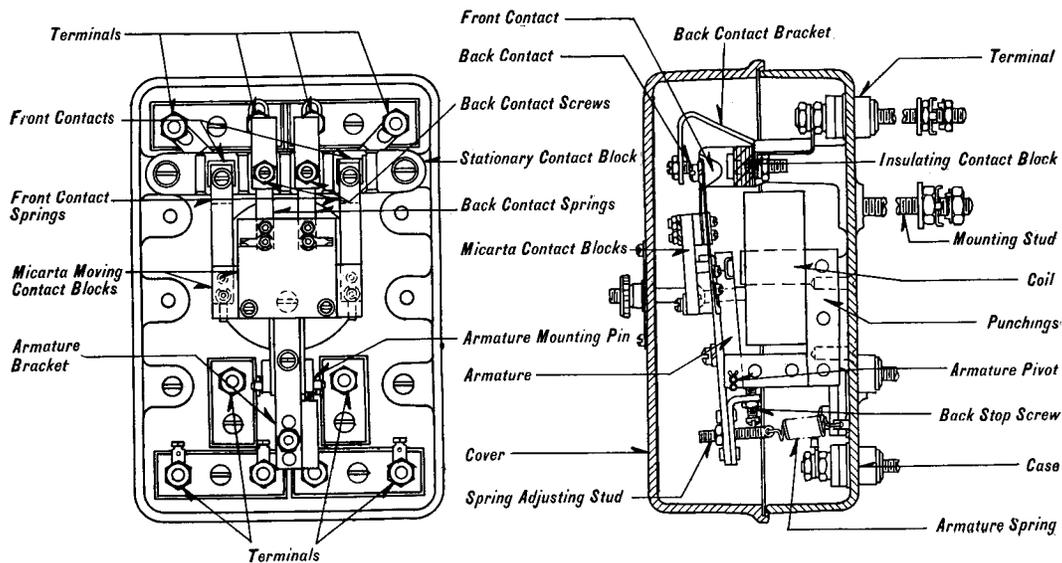

Fig. 3—Front and Side Cross Section View of Type MC Relay (Two Front and Two Back Contacts)
Figure 3 shows a front and side cross-section view of the relay. The main magnetic circuit consists of U shaped punchings riveted together, one end of the U supporting the coil, and the other end being fitted with brackets suitable for mounting the pivoted armature. The iron armature is mounted on the hinge-brackets by means of a small steel pin.
- (c) Two front and two back contacts (Figures 3 and 13).